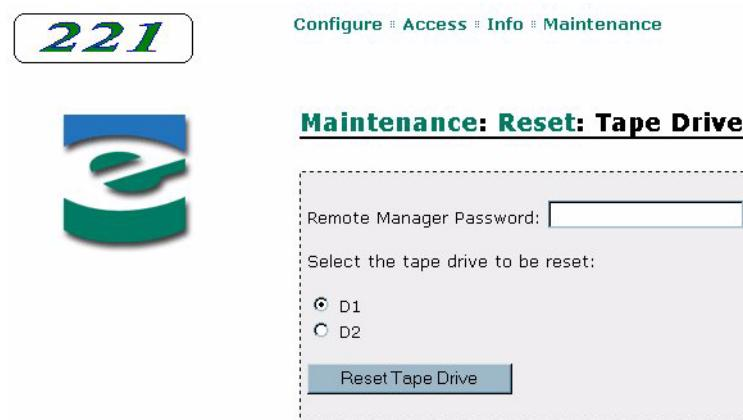

Figure 6-48 Remote management utility – Reset Tape Drive page
3. Click on Reset a tape drive. A page similar to Figure 6-48 appears.